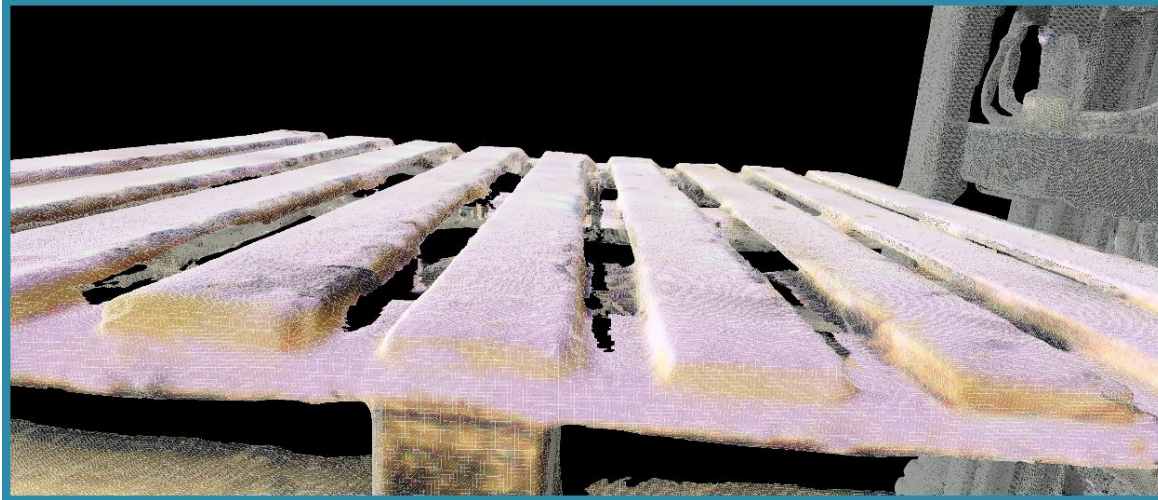

Figure 144 – Rendering Mode toolbar – Normal + Wireframe Mode
-  – The **Normal + Wireframe Mode** command-button – display both the texture and the polygons of the model (see Figure 144 below).